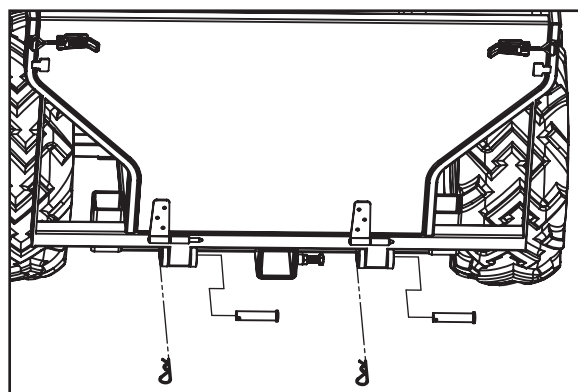

Fig. 16
Step 16: Install the Bed. With the help of a second person, place the Bed (16) onto the Rear Bed Support (5). Ensure the lifting hoop on the inside bottom of the bed is closest to the Front (Hitch) End of the trailer. Slide the bed forward on the Main Frame (1) until the two pivot bosses at the bottom and back of the Bed engage into the pivot ears of the Rear Bed Support (5). Insert the two Bed Pivot Pins (22) into the pivot ears and through the two pivot bosses, then use the Hair Pins (32) to hold the Bed Pivot Pins in place (Fig 16).